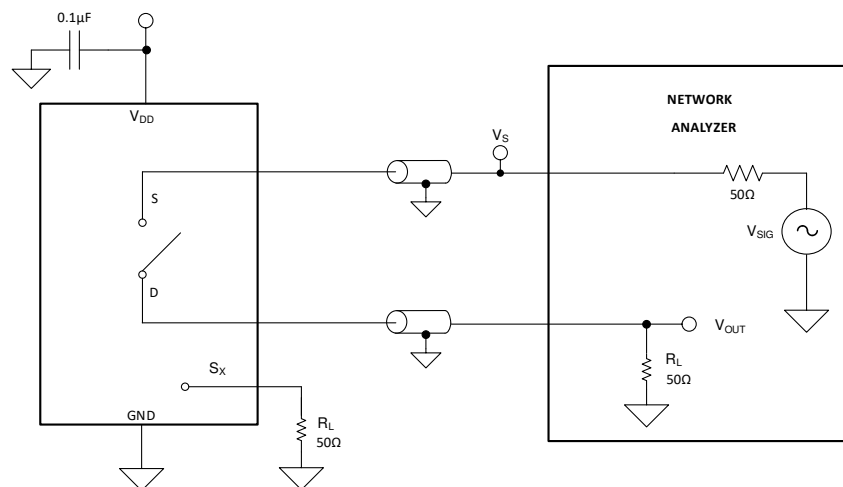

图 14. Off Isolation Measurement Setup
Off isolation is defined as the ratio of the signal at the drain pin (D) of the device when a signal is applied to the source pin (S_x) of an off-channel. 图 14 shows the setup used to measure, and the equation used to calculate off isolation.